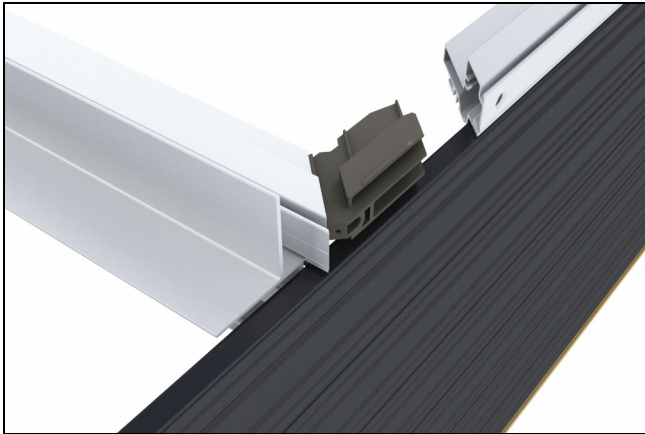

Figure 101
7. On pocketing interlocks, insert frame cladding corner key into mitered end and align with head jamb cladding using keys as reference. See figure 101.